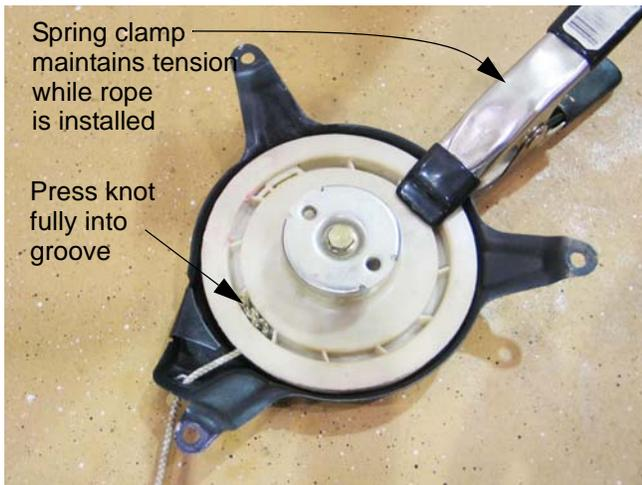

Figure 6.6
5. The rope may be easily installed from the inside-out. Pull the rope tight to seat the knot firmly in the recess in the back of the pulley. See Figure 6.6.
6. Wind the spring completely. Then relieve it minimum 1 full turn, counting when the pulley knot aligns with the rope bushing in the housing. (This usually results in about 1.5-1.75 complete turns of relief), and secure it with a spring clamp. See Figure 6.6.